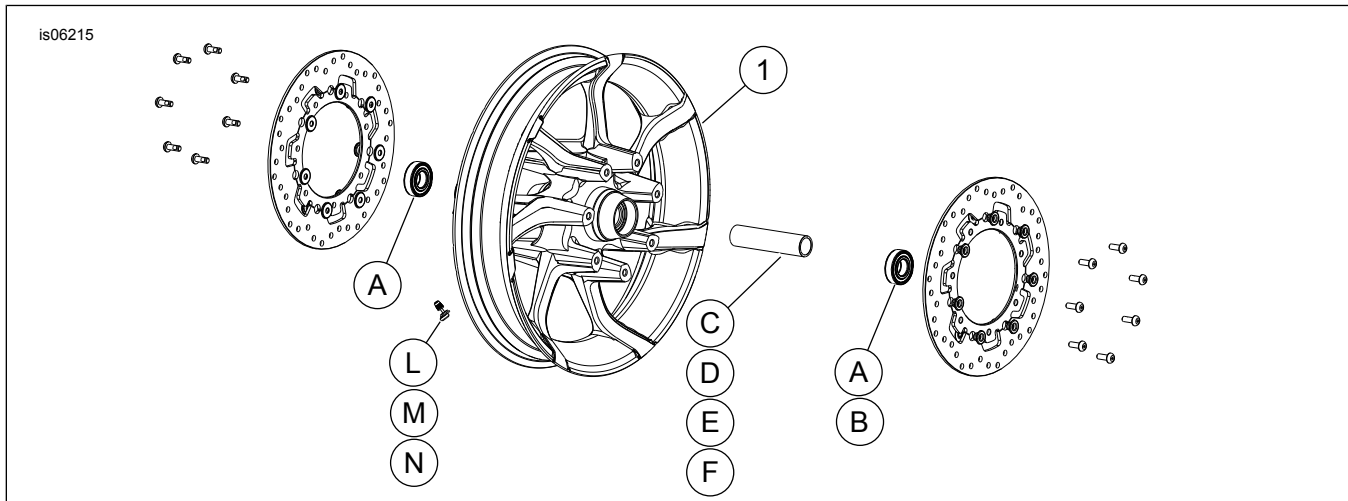

Figure 1. Service Parts: Front Agitator Wheels (19-inch shown)
See Figure 1 and the Service Parts Tables.
2. See Figure 1. Install valve stem assembly (L) on wheel. See the service manual.